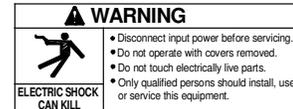

Figure 44
3. Locate the HF board W05X1615, see **Figure 44**